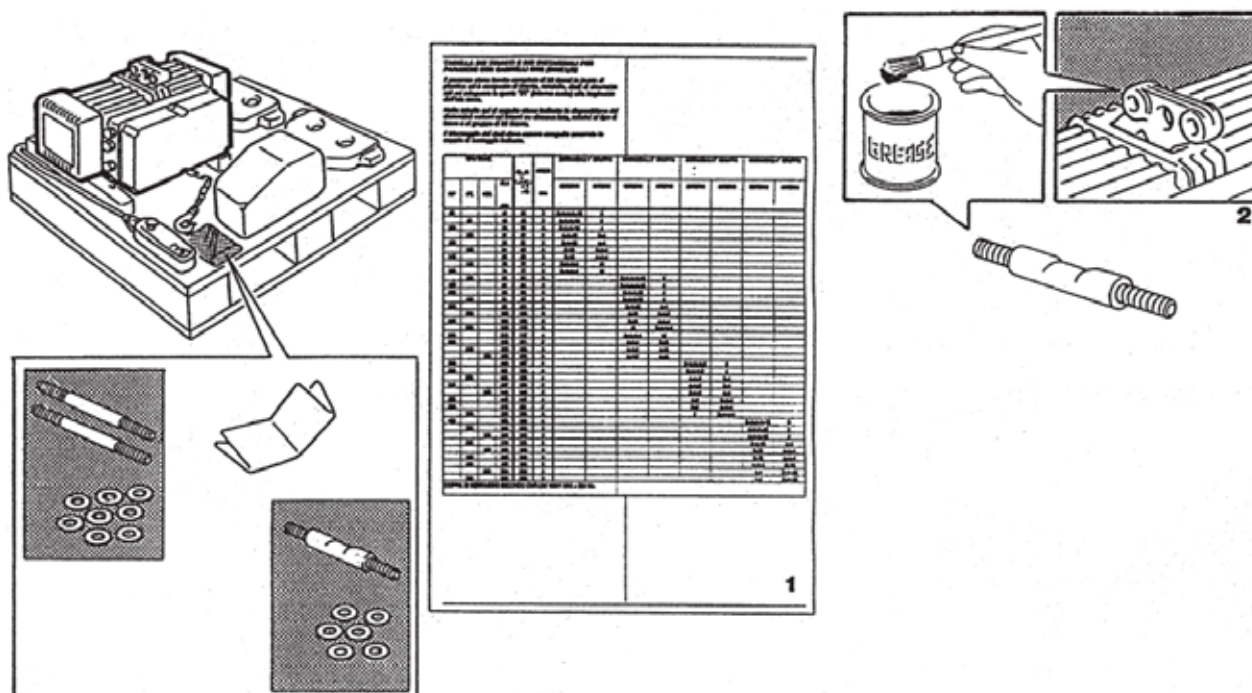

fig.20
1. Depending on the beam flange, choose the arrangement of the spacers (see tables below) to ensure the necessary clearance. (fig.20)
2. Grease the central hole of the eye bolt bracket and the tie rod supplied (only for SM2 trolleys). (fig.20)